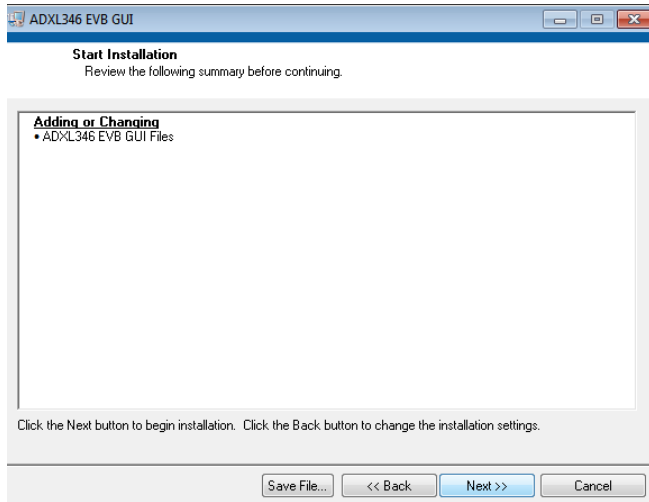

Figure 12. ADXL346 EVB GUI Start Installation (Listing Varies Based on PC Requirements)
3. Read the license agreement before accepting it; then, click **Next**. The installer lists the required components to install on your PC (see Figure 12).